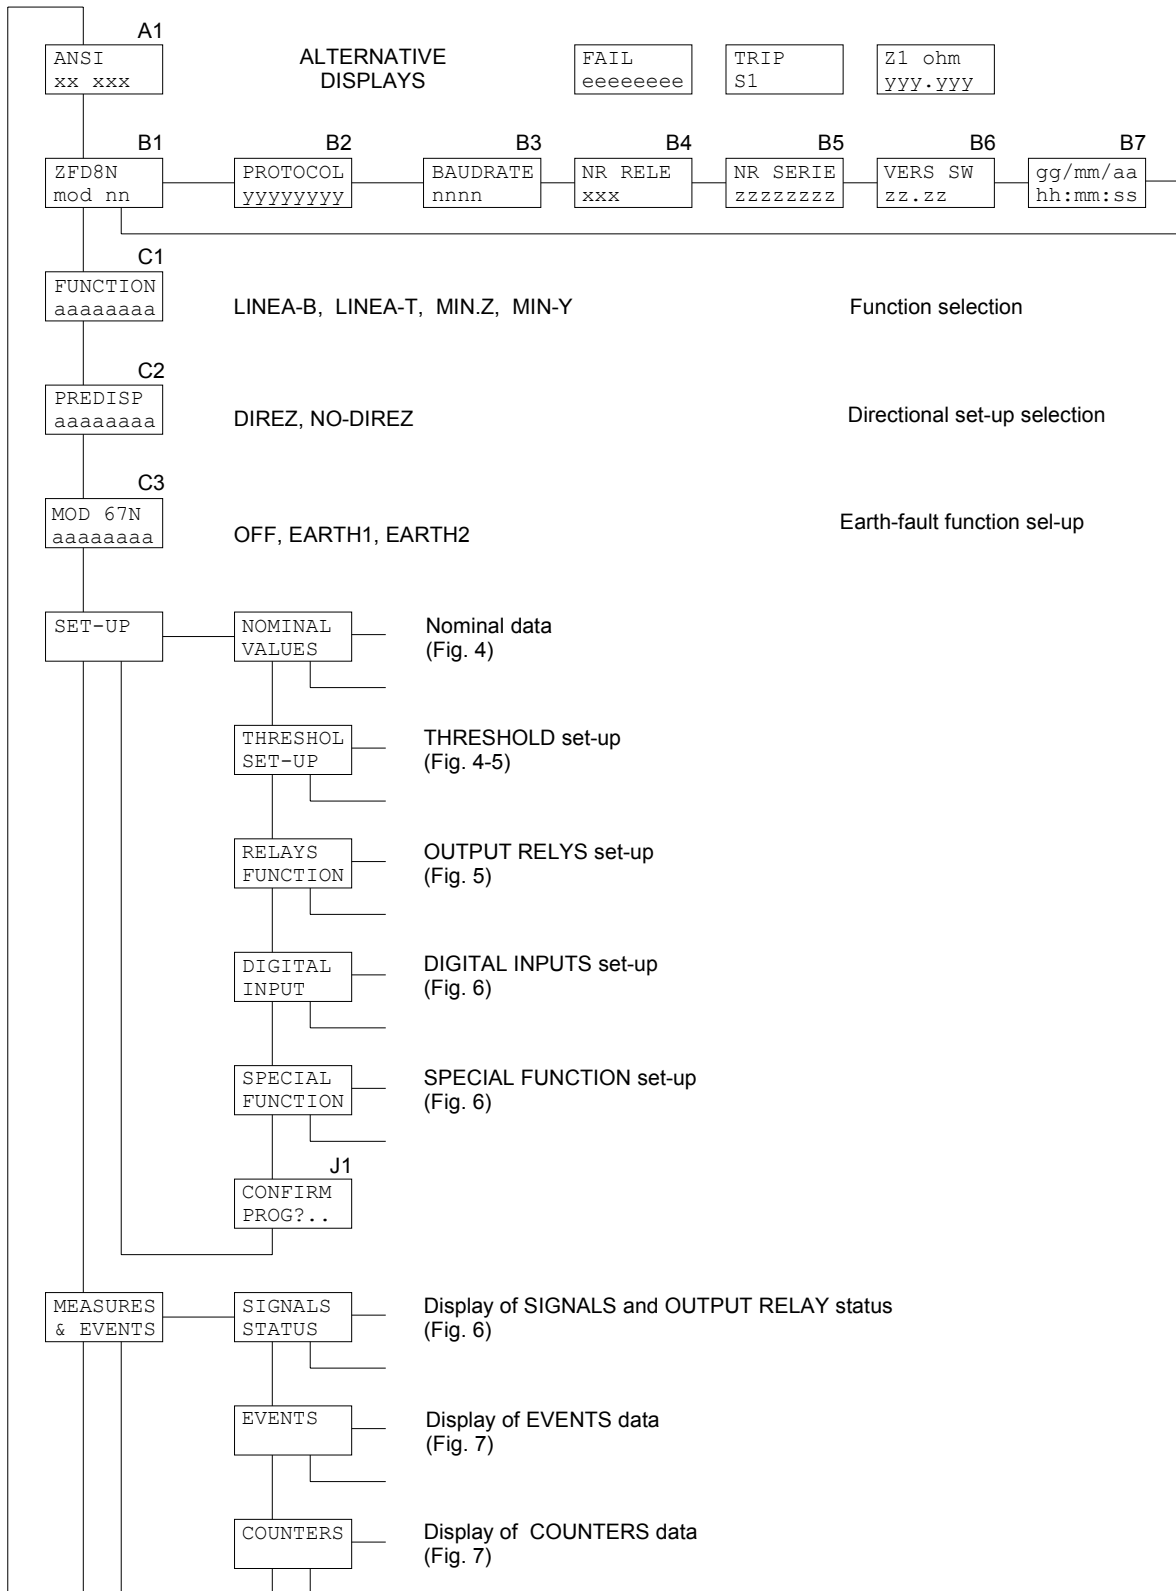

Figure 3
The programmable parameters are showed in Figures 3, 4, 5, 6 and 7 at the following references:
- 5) **CONFIRM** the new protection relay set-up at the visualization CONFIRM PROG? (Fig. 3, ref. J1) within 5 minutes depressing the push-buttons [ENTER] and  up to visualize **YES** and [ENTER] again to confirm.
- display on STANDARD MODE (Fig. 3, ref. A1 - par. 5.1)
The contents and the structure of the displayed messages are shown in figures 3÷7; the references A1, B1, B2 etc. identify specific displayed messages in the figures.
5.1 Standard display (fig. 3)
A1 - STANDARD DISPLAY (fig. 3)
5.3 Address and time (fig. 3)
5.4 Function selection (fig. 3)**C1 - FUNCTION SELECTION (programmable)**